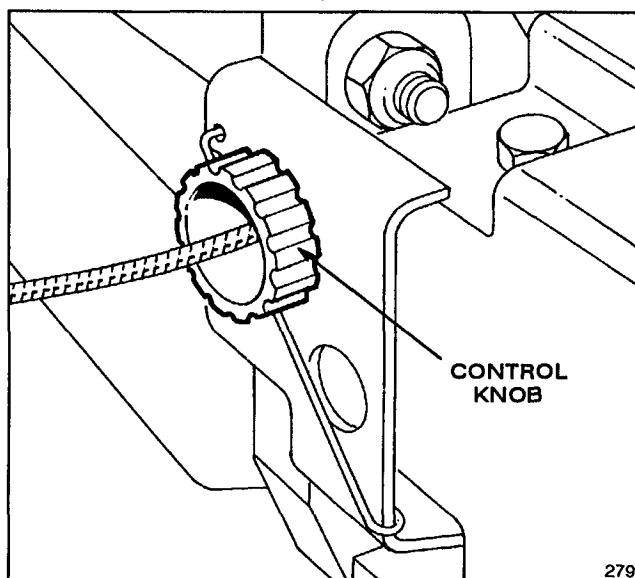

Figure 16
1. ADJUSTMENT (Fig. 16)—Rotate control knob clockwise 1/2 turn if mower does not self-propel. If mower creeps forward, rotate knob 1/2 turn counterclockwise to loosen belt.